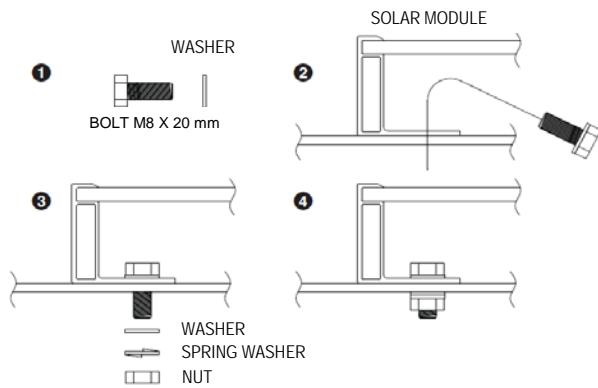
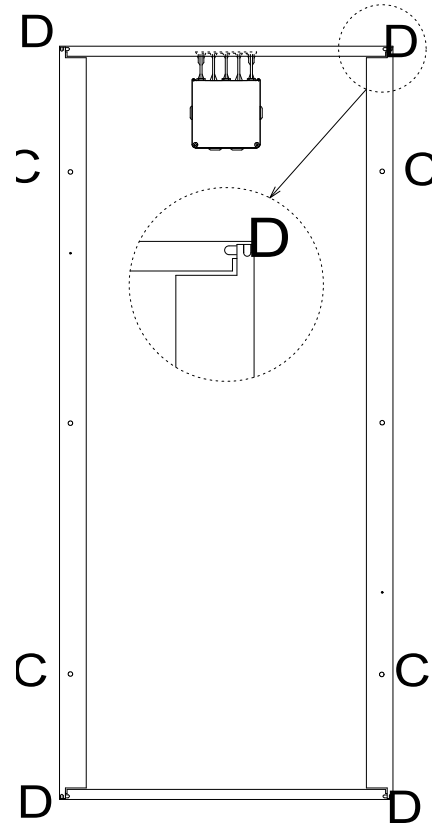

Figure 10
Figure 11
Mounting Using Frame Bolt Holes (Figure 10 & 11)
The modules may be fastened to a support using the bolt holes in the bottom of the frame at location "C", as shown in Figure 11 (back view of the module) and Figure 10 (mounting detail). The module should be fastened with four (4) M8 (5/16") bolts. The mounting method is designed to withstand loads of 2400 Pa. Take care during installation to not block the drain holes (D) shown in Figure 11.